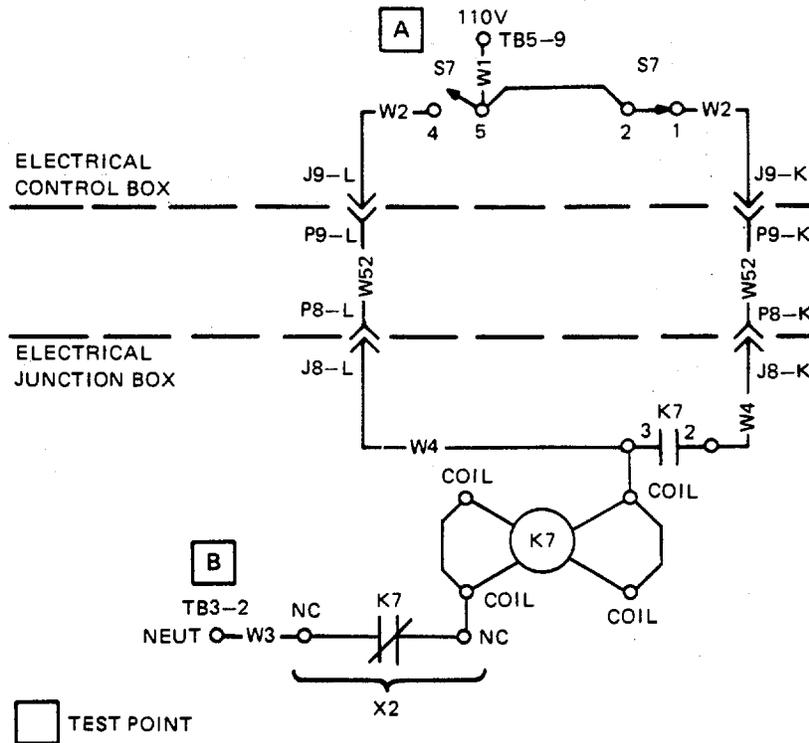

Figure 3-8. Chemical Feed Metering Pump Assembly Support Diagram
Ensure that all circuit breakers are set. Refer to figure FO-3 for schematic diagram and figure FO-4 for interconnection diagram. Refer to figure 3-1 for control box support diagram, figure 3-2 for junction box support diagram, and figure 3-8 for chemical feed metering pump support diagram.
Step 3. Shut down ROWPU. Refer to TM 10-4610-239-10. Shut down power. Refer to generator manual. Refer to chemical feed metering pump assembly support diagram figure 3-8. Hold CHEMICAL FEED PUMP switch in START position. Check continuity point-to-point between test points A and B through S7-5 and S7-4.
- Step 4. Shut down ROWPU. Refer to TM 10-4610-239-10. Shut down power. Refer to generator manual. Set CHEMICAL FEED PUMP switch to RUN position. Refer to chemical feed metering pump assembly support diagram figure 3-8. Check continuity point-to-point between test points A and B through S7-2 and S7-1.